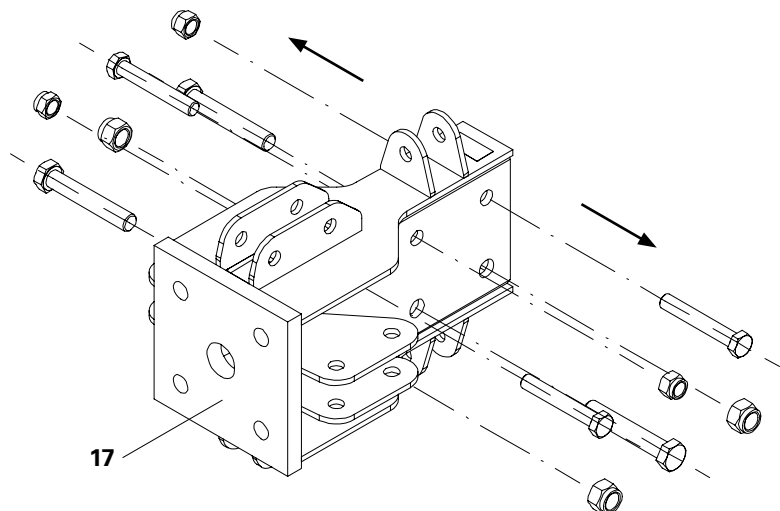

Fig. B2.02
1. Remove all 6 bolt connections from the Prop Base VST 48 (17). (Fig. B2.02)